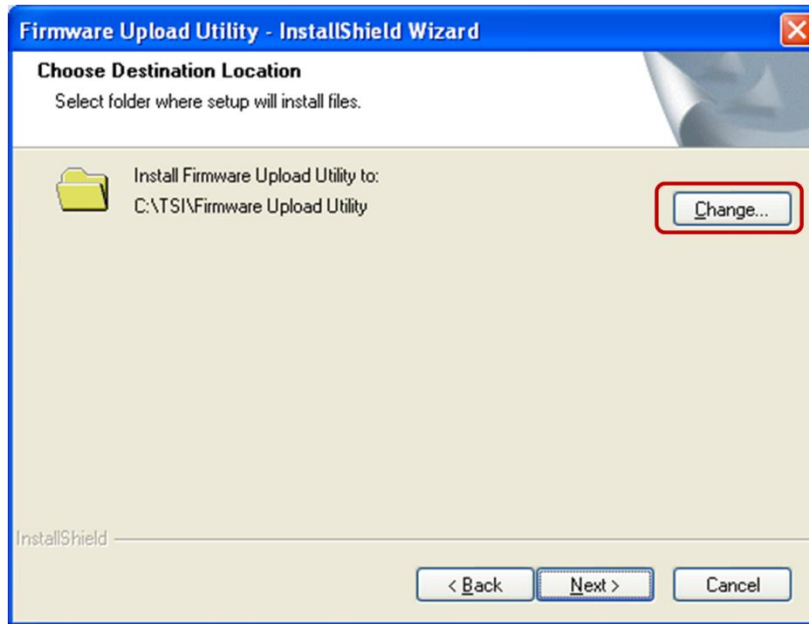

Figure 3
4. Install to the default location by selecting the **Next >** button or change the location of the installed files by selection the **Change...** button (Figure 3).